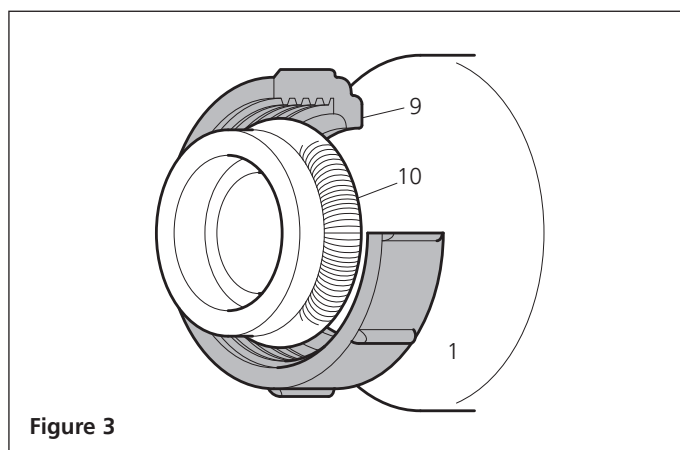

Figure 3
- Place the grey retaining cap (9) over the butt joint of the condenser (1) with the screwthread facing outwards and retain in position with the circular spring (10) (figure 3).